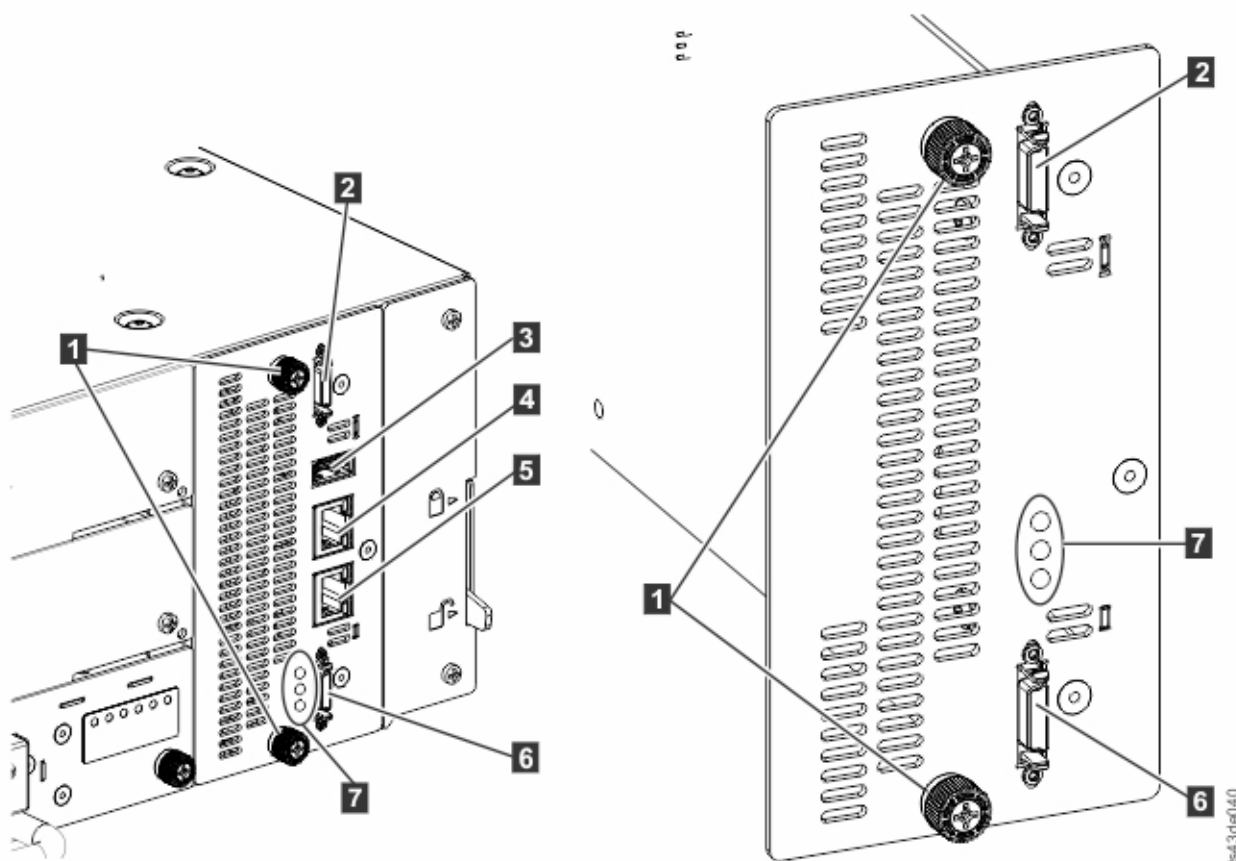

Figure 68. Controller card components
3. Remove the Ethernet cables (4) and (5) and the USB cable (3), if present. (An Expansion Module does not have Ethernet or USB ports. See Figure 68 on page 129).
4. Loosen the two blue captive thumbscrews (1) on the controller.
3. Tighten the blue captive thumbscrews (1) with your fingers to secure it to the module.
4. Replace the expansion interconnect cables (2) and (6), the Ethernet cable or cables (4) and (5), and the USB cable (3) that were removed previously. (An Expansion Module does not have Ethernet or USB ports. See Figure 68 on page 129).